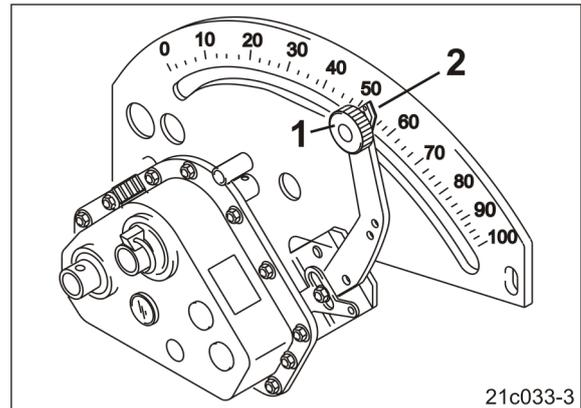

Fig. 210
4. Set the pointer (Fig. 210/2) of the gearbox lever to the gearbox setting value 100.
5. Firmly tighten the locking knob (Fig. 210/1).